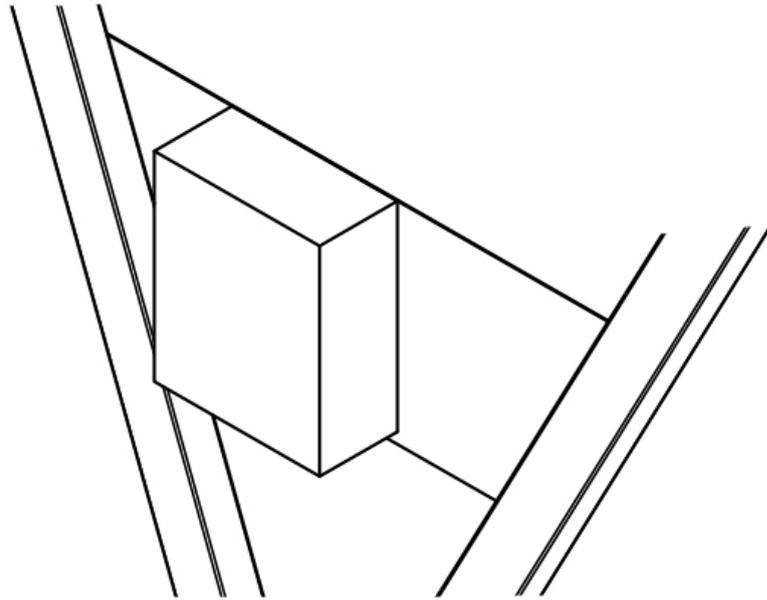

Figure 20. Inverter mounting proposal
20. After mounting the modules, proceed to install the gasket which should be placed in the gaps between the modules (the gasket should face the module frame). The next step is to mount the inverter and the switchgear to the W-02-18 mounting plate according to the recommendations of the manufacturer of a given inverter and switchgear, by drilling through the plate in appropriate places, matching the given components. Route the wires in the covers. The connection proposal is included in the following Figure 20.